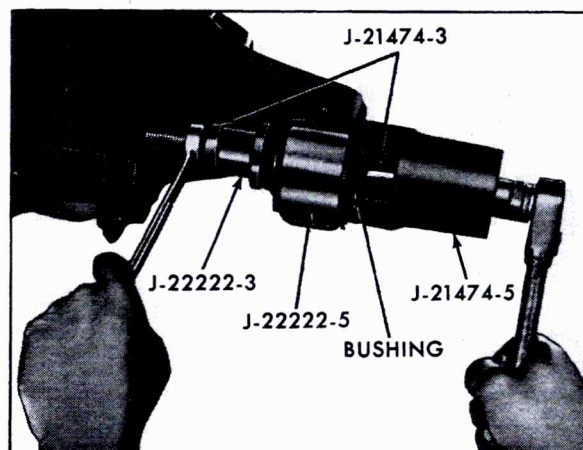

Fig. 3-49 Removing Lower Control Arm Bushings
2. Install tools as shown in Fig. 3-49 and press bushings out of control arm.